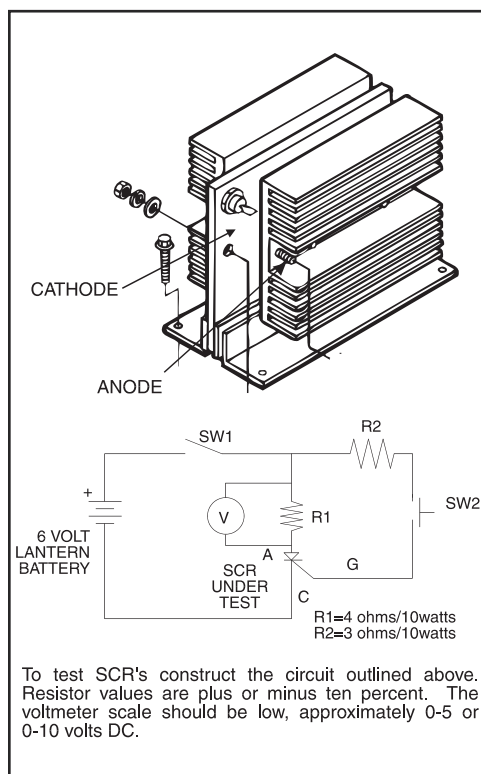

FIGURE F.7 - SCR Tester Circuit and SCR connections.
7. Connect the Tester to the SCR 1 as shown in Figure F.7.
- a. Connect Tester lead (A) to the anode.
- b. Connect Tester lead (C) to the cathode.
- c. Connect Tester lead (G) to the gate.